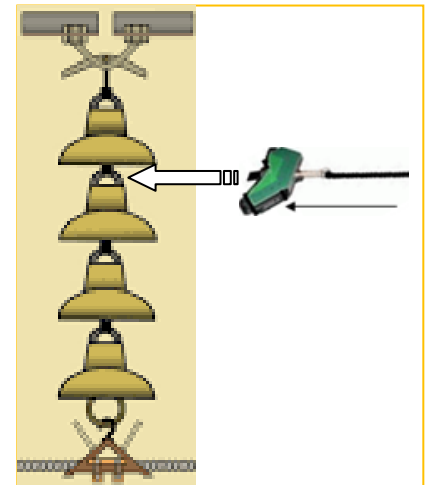

Figure 20
For use on insulators and bushings where the size of the insulator or bushing is too small to be accommodated by the adjustable ski guides. It is also recommended to test a porcelain insulator string of less than 12 bells using this assembly. See figure 20.
1. The scanning session consists of testing of minimum of 5 points. Per Figures 19, 20, and 21, the best practice in scanning is to take readings by pressing the Pressure Switch Actuator of the Probe against the bushing or insulator, starting at one end and progressing toward the other end. The scan can begin at either the low-voltage or high-voltage end of the bushing or insulator. See Figure 19. The Pressure Switch Actuator should be pressed against each pin under the porcelain insulator bell of a lower voltage insulator string. See Figure 20.